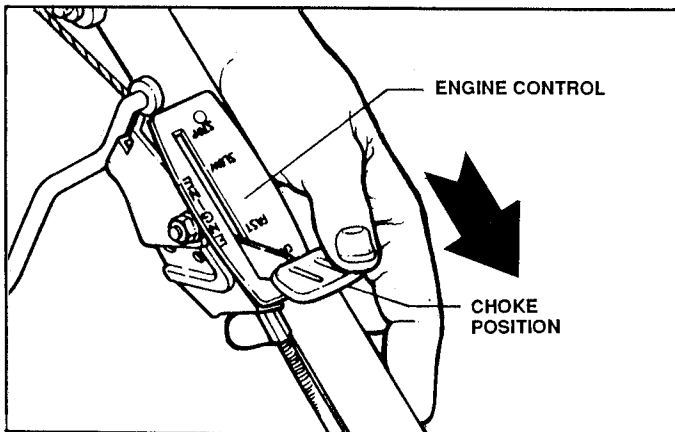

FIGURE 6
3. **CHOKE ENGINE** for cold starting by moving ENGINE CONTROL to CHOKE position. See Figure 6.